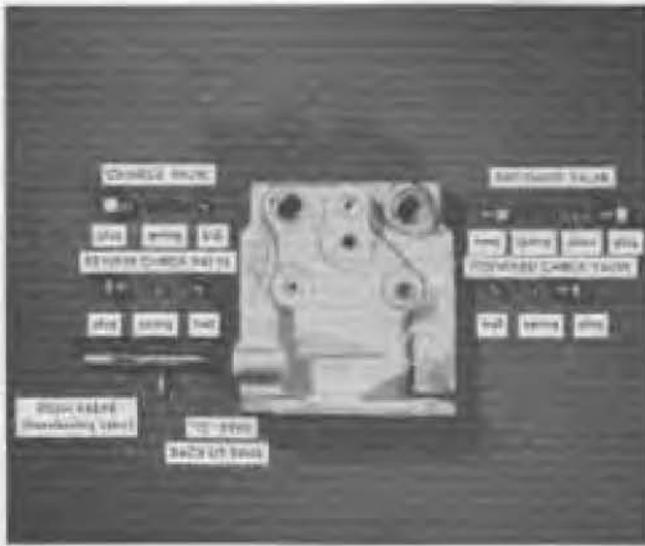

FIG. 52. Pump End Cap Valves
9. Remove the $\frac{3}{8}$ " hex plug from the top right corner of the pump end cap. (Viewed from the motor side of the pump end cap, see Fig. 52). If the unit is equipped for hydraulic lift operation, there will be shims located in the spring cavity of the plug. Do not lose these shims as they determine the amount of implement pressure. Remove the spring and cone valve. Do not mix up this implement valve spring with the charge valve spring removed from the top left corner.